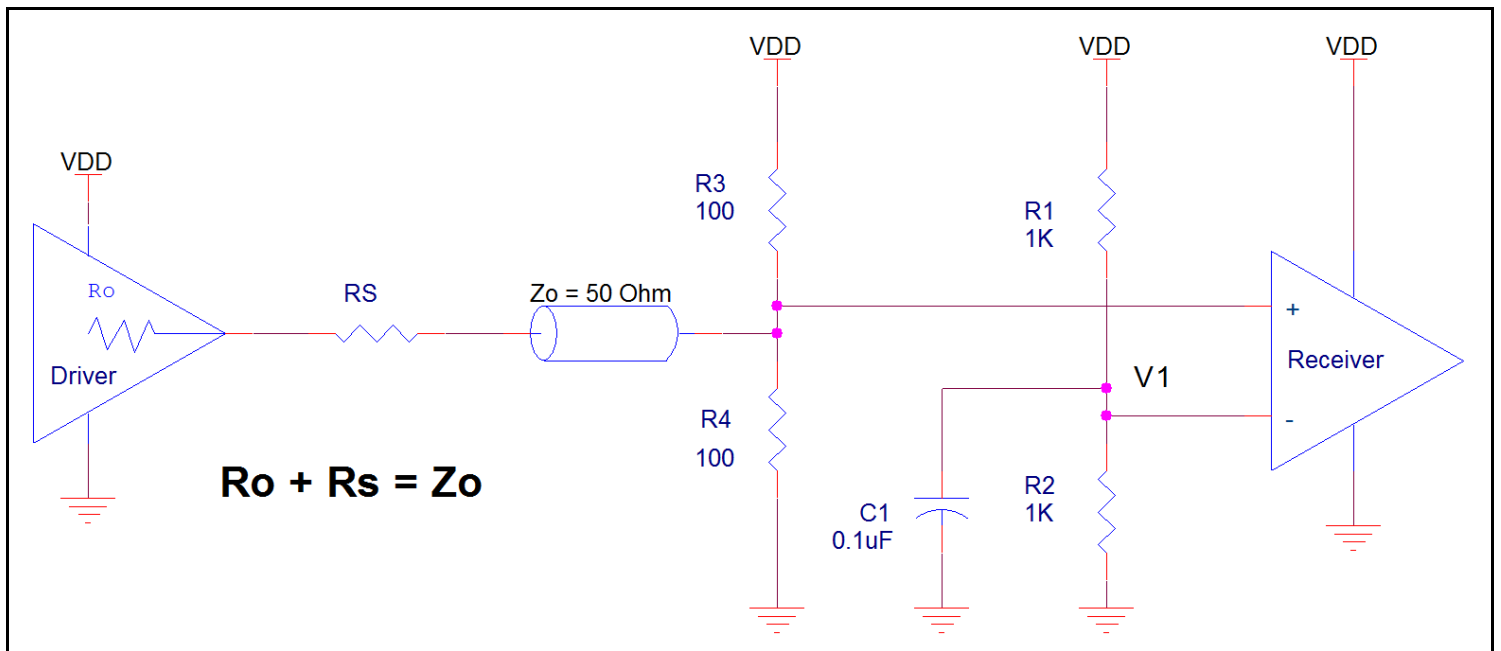

Figure 2. Recommended Schematic for Wiring a Differential Input to Accept Single-ended Levels
*Figure 2* shows how a differential input can be wired to accept single ended levels. The reference voltage  $V_1 = V_{DD}/2$  is generated by the bias resistors  $R1$  and  $R2$ . The bypass capacitor ( $C1$ ) is used to help filter noise on the DC bias. This bias circuit should be located as close to the input pin as possible. The ratio of  $R1$  and  $R2$  might need to be adjusted to position the  $V_1$  in the center of the input voltage swing. For example, if the input clock swing is  $2.5\text{V}$  and  $V_{DD} = 3.3\text{V}$ ,  $R1$  and  $R2$  value should be adjusted to set  $V_1$  at  $1.25\text{V}$ . The values below are for when both the single ended swing and  $V_{DD}$  are at the same voltage. This configuration requires that the sum of the output impedance of the driver ( $R_o$ ) and the series resistance ( $R_s$ ) equals the transmission line impedance. In addition, matched termination at the input will attenuate the signal in half. This can be done in one of two ways. First,  $R3$  and  $R4$  in parallel should equal the transmission line